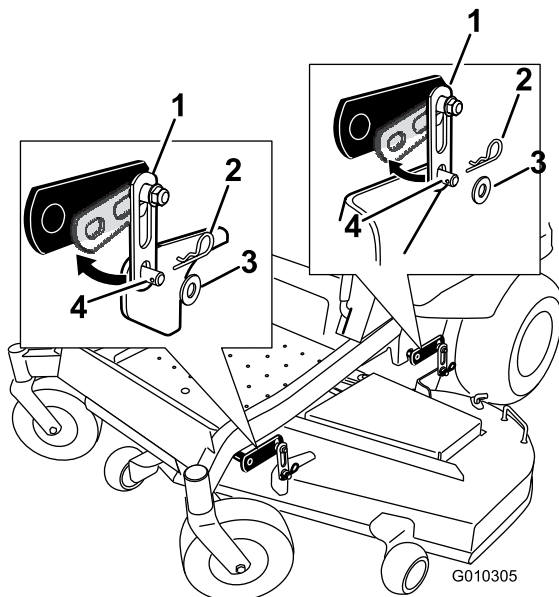

Figure 70
2. Remove the hardware from the front and rear deck hangers on both sides of the deck (Figure 70).
5. Lift the rear of the mower deck and attach the rear support on the mower deck to the rear deck hangers. Secure them with a washer and hairpin cotter (Figure 70).
6. Attach the front support on the mower deck to the front deck hangers and secure them with a washer and hairpin cotter (Figure 70).